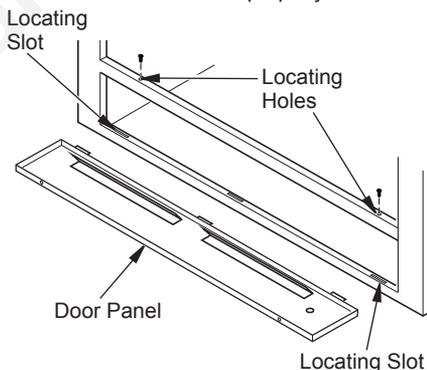

Figure 16 - Removing Lower Door Panel
2. Remove 2 screws located at the top of lower door panel. Slide door panel forward and up to remove tabs on panel from locating slots in firebox (see Figure 16).